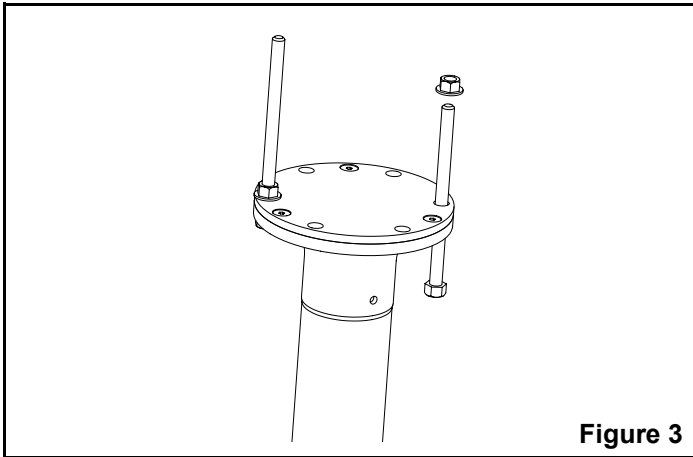

Figure 3
2. Insert the springbox tool (MBW #06468) rods into the springbox assembly as shown in Figure 3.